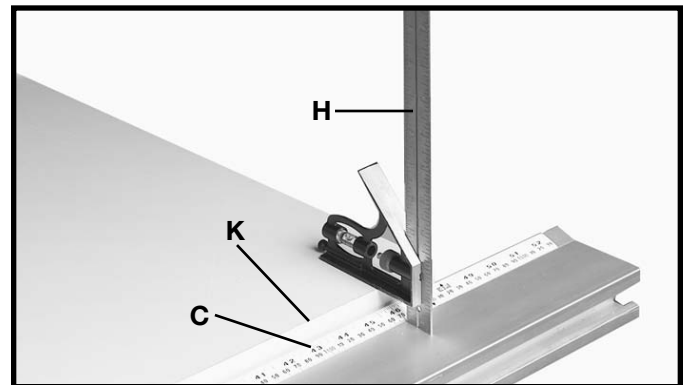
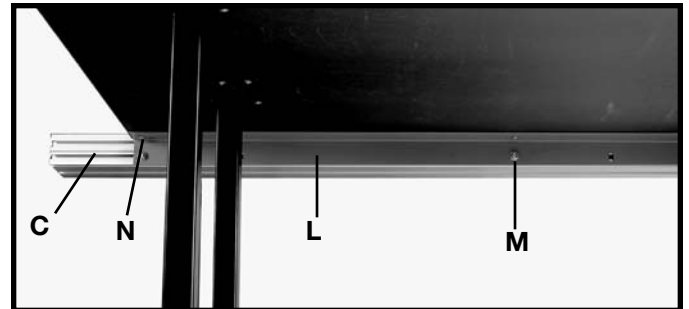

Fig. 26
Fig. 27
8. Move the square (H) Fig. 26, to the end of the Unifence table and check to make certain the same distance is maintained from the top surface of the extension table (K) to the top surface of the guide rail (C). Move the front table support (L) Fig. 27, against the guide rail (C), and tighten the 1/4-20 nut (M). Tighten two wood screws, one of which is shown at (N) Fig. 27, that fasten the Unifence table to the guide rail.